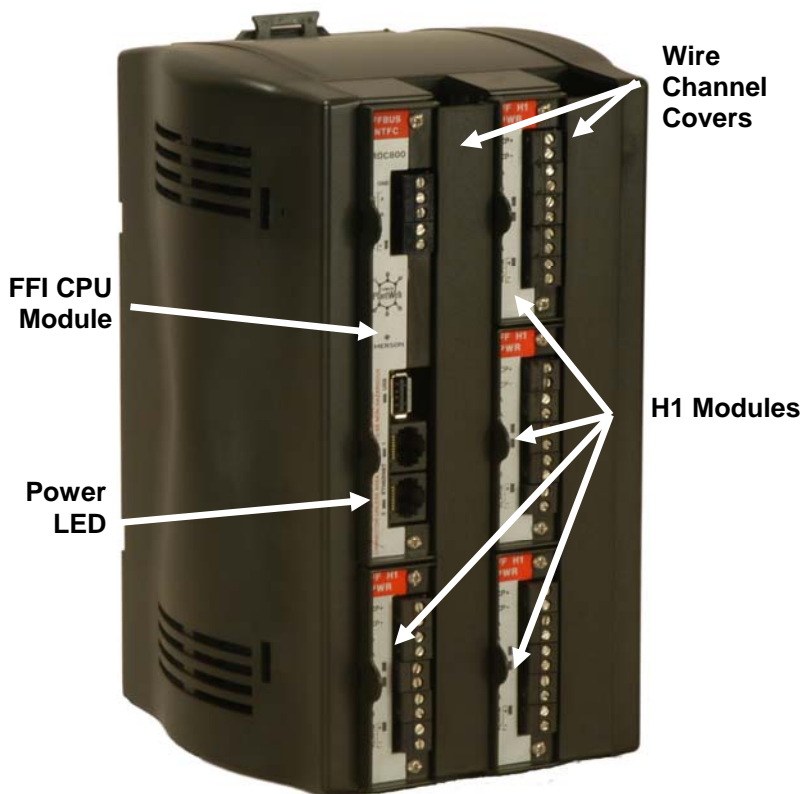

Figure 13. FOUNDATION Fieldbus Interface
3. Press the wire channel covers into place over the wiring channels, once wiring of the terminal blocks is complete. Refer to *Figure 13*.
4. Apply power to start the FFI. The Power LED indicator on the FFI (see *Figure 13*) should light green to indicate that the applied voltage is correct.